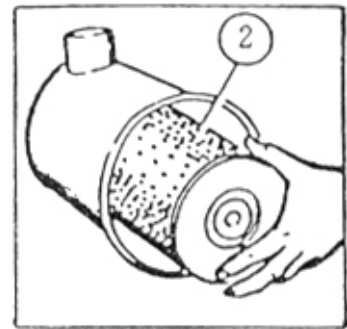

Fig.44
c. Clean and replace main filter cartridge (Fig 44)